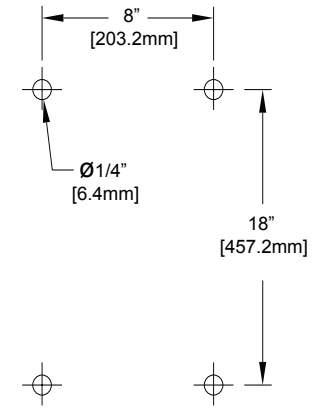

Figure 3, Re-occurring Mounting Hole Pattern 3-rows x 4 columns
5. Using the reoccurring hole pattern in Figure 3, mark and drill twelve – 9/64" pilot holes.